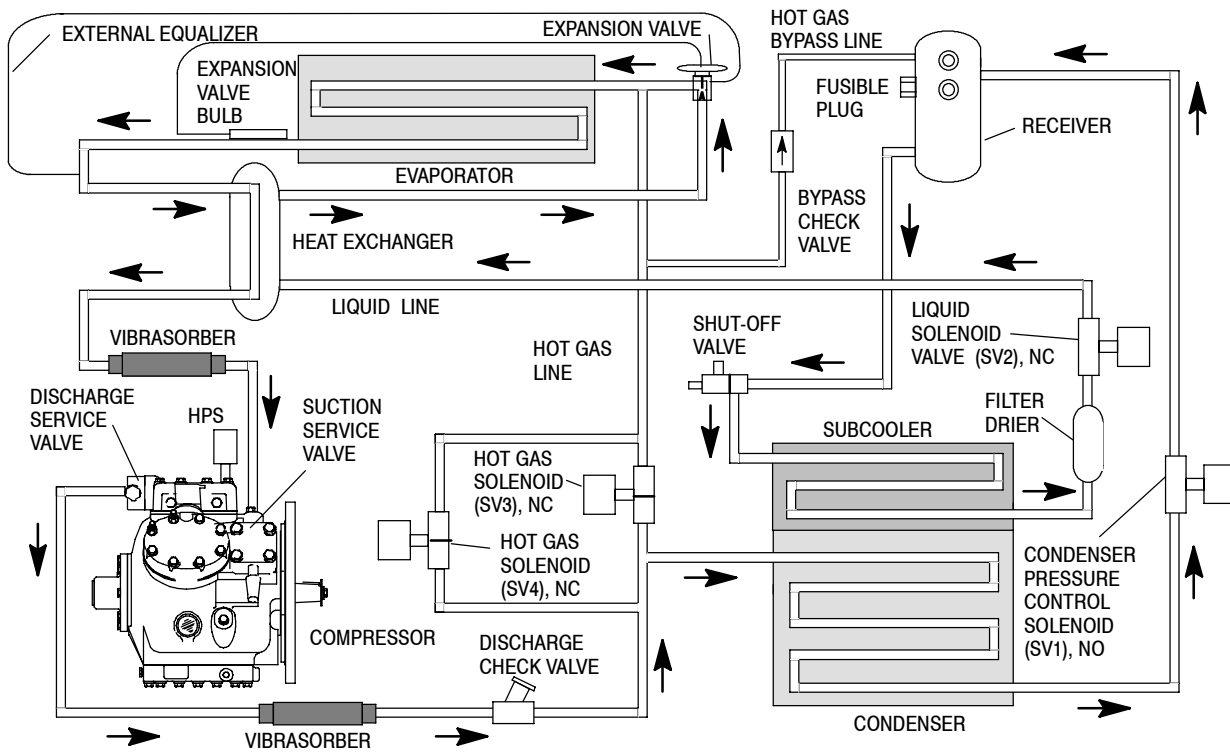
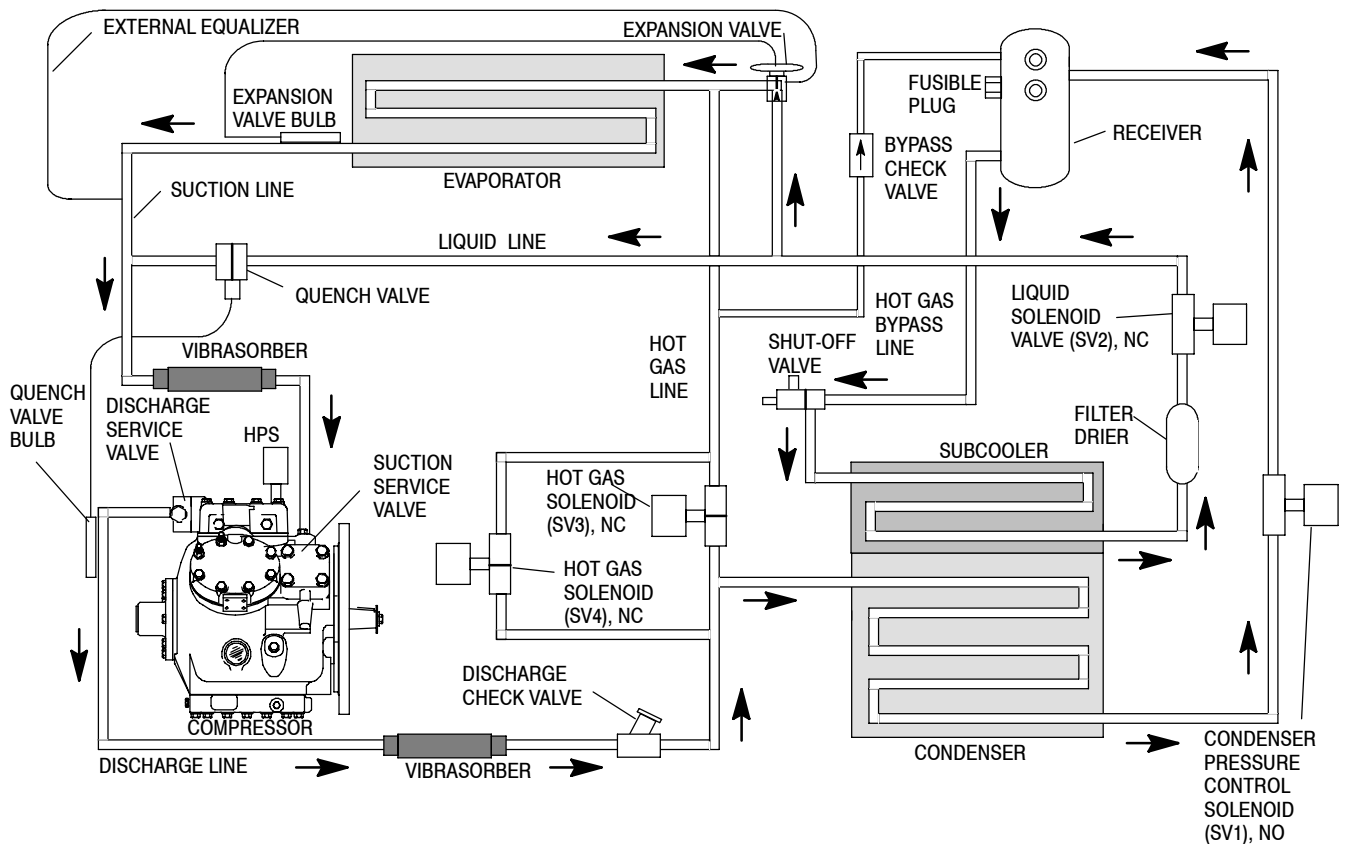

Figure 7-13. R-404A Refrigerant Circuit - Cooling
Figure 7-14. R-22 Refrigerant Circuit - Cooling
When cooling, the unit operates as a vapor compression refrigeration system. The main components of the system are the (1) reciprocating compressor, (2) air-cooled condenser, (3) expansion valve, and (4) direct expansion evaporator. (See **Figure 7-13** or **Figure 7-14**)